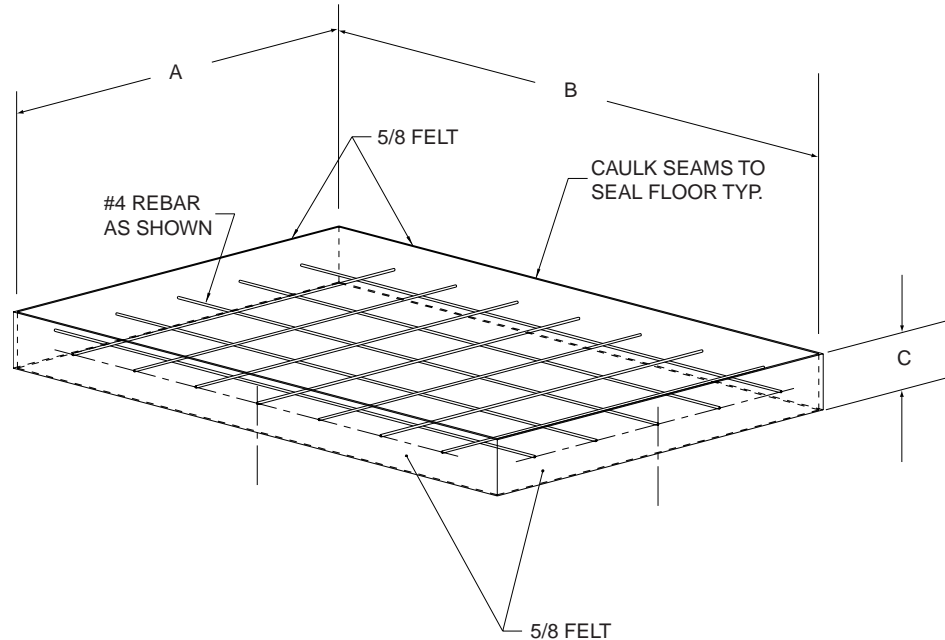

Figure 2-1: Typical Pad Construction
1. It is recommended that all models be placed on a isolated concrete pad 8-12 inches thick (Figure 2-1, Dimension C). For A and B dimensions, see Table 2-1.